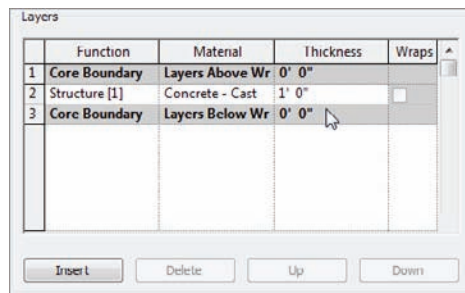

FIGURE 8.60 Changing the structure thickness
9. In the Layers field, change Thickness to 1'-0" (300mm), as shown in Figure 8.60.